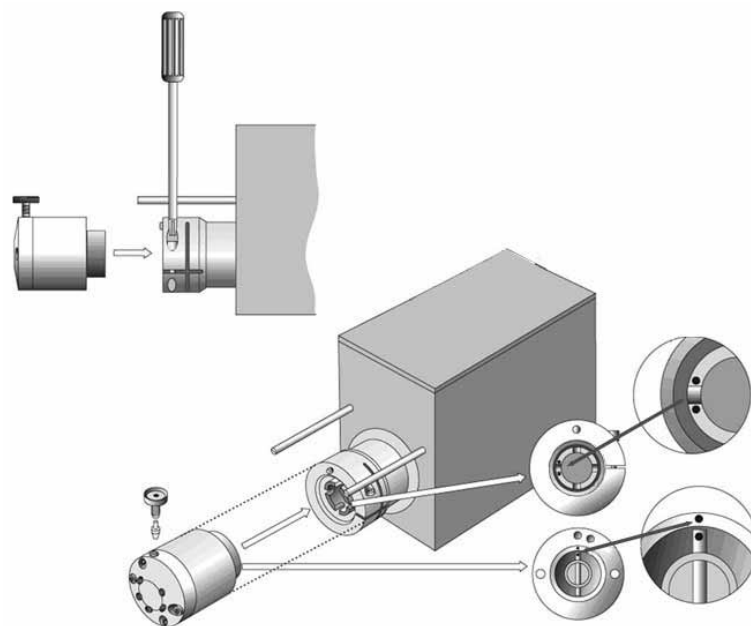

Fig. 60: Replacing the injection valve
3. On the valve drive, verify that the valve guide pin remains at its position and mind the guide marks (→ Fig. 60).